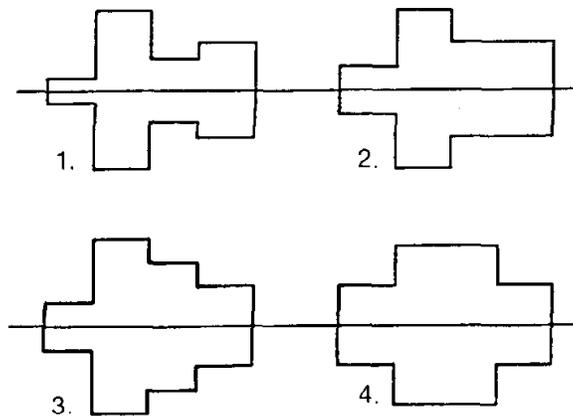

FIGURE 18
14. Turn the trigger level dial all the way to the left and then back to the right so that you can see the display clearly. At this point, the scope will display a pattern of bursts of a certain amplitude. (Figure 18).
NOTE: The rule you should remember when checking the azimuth measurement is as follows: the inside bars (bursts) must be equal to or greater than their respective outside bars. Figure 18 shows examples of four patterns that you might see. Number 1 is ideal (zero azimuth error), errors 2 and 3 are acceptable. An error such as number 4 requires a new read/write head.